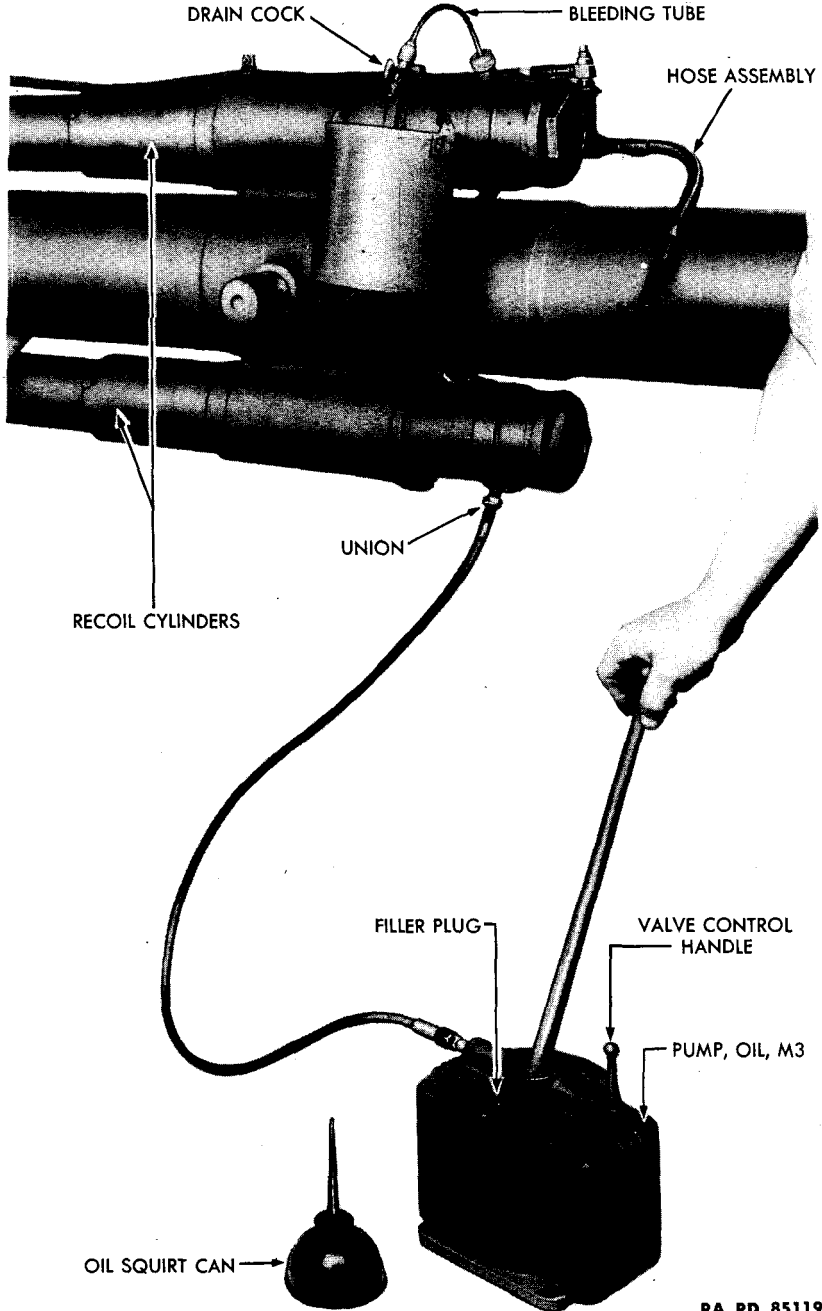

Figure 87 — Filling Recoil Cylinders
(1) If possible, have muzzle end of gun approximately 2 inches higher than breech end of gun to facilitate purging system during filling of recoil cylinders.
(2) If plug and gasket have previously been installed, remove plug and gasket from lower front end of bottom recoil cylinder (fig. 61). Then assemble a gasket on union (A311479), and install union in plug hole in lower front end of bottom recoil cylinder (fig. 87).
(3) Attach oil hose assembly (B269301 less coupling A236062) to union (fig. 87).
(5) Install gasket on bleeding tube, then install bleeding tube into tee hole in upper cylinder. Hang a small pail from drain cock of bleeding tube to catch oil during purging operation (fig. 87).
(6) Open drain cock of bleeding tube to purge recoil system (fig. 87). Connect hose assembly to Oil Pump M3. Operate handle of Oil Pump M3 to pump recoil oil into cylinders. (Be sure right type of recoil oil is being used.) Examine warning tag which should be hung on gun indicating type of oil used, or refer to Lubrication Guide, chapter 3, section VII. Operate Pump M3 until both recoil cylinders are filled and a full stream of oil is coming out of the bleeding tube. Tap recoil cylinders lightly while pumping oil slowly into system until oil coming out of bleeding tube contains no air bubbles. Close drain cock of bleeding tube. (Closing the drain cock on bleeding tube prevents recoil oil being lost when the union is removed and replaced by plug.)
(8) Remove bleeding tube from upper recoil cylinder. Then replace recoil oil which was lost when disconnecting union and installing plug (fig. 87). Shake hose assembly which connects upper and lower recoil cylinders, while squirting recoil oil into upper cylinder to facilitate the removal of any air from system.
(9) Gradually lower muzzle of gun to its approximate level position to eliminate any air pockets that might have formed in system. Then visually check to see that cylinders are filled with recoil oil.